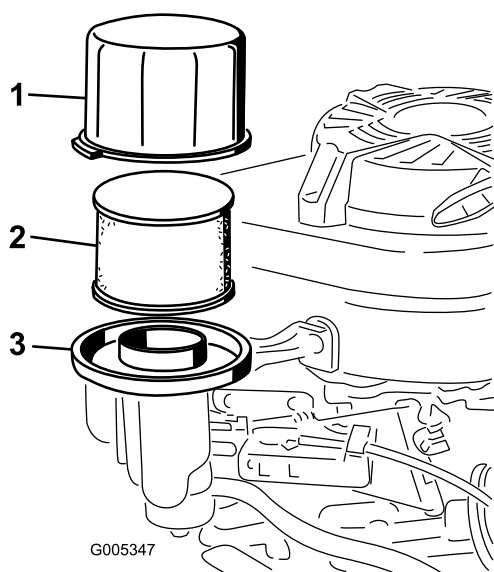

Figure 22
3. Remove the cover and clean it thoroughly (Figure 22).
4. Remove the foam pre-cleaner and the paper-air filter from the air-cleaner base (Figure 22)